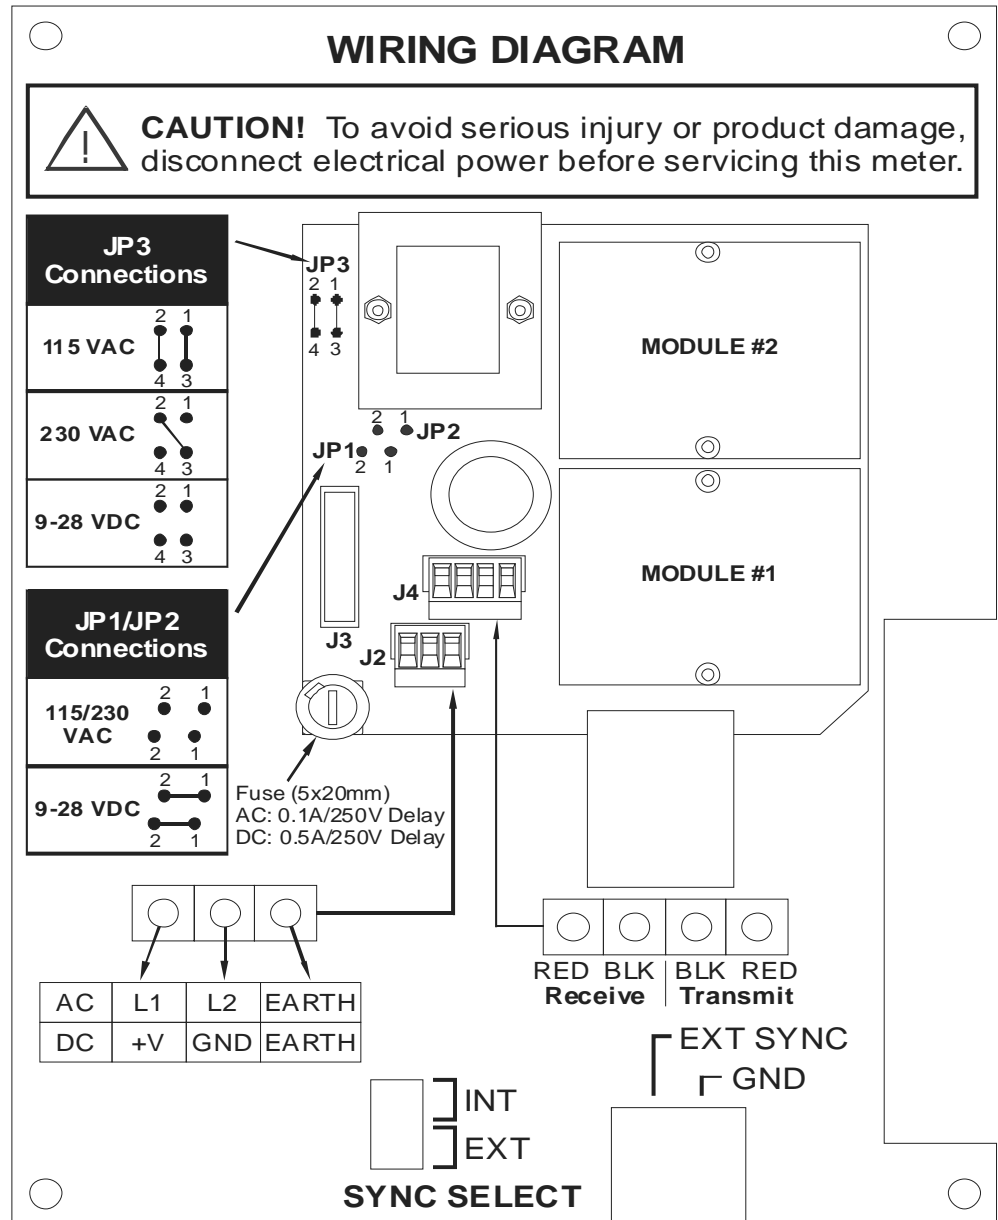

Figure 3.2
2. The terminals within the DFX are a pluggable type – they can be removed, wired and then plugged back in. Connect the appropriate wires to J4 at the corresponding screw terminals in the transmitter. See **Figure 3.2** on page 3.4 or the Wiring Diagram located on the inner door of the transmitter.
1. Verify that the jumpers at JP3 are properly oriented for the power supply. See **Figure 3.2** on page 3.4. Verify that the jumpers at JP1 and JP2 are not present.
2. Connect L1, L2 and EARTH to the terminals referenced in **Figure 3.2**. Phase and neutral connections to L1 and L2 are not polarized. Do not operate without an earth ground connection.
1. Verify that the jumpers are properly placed. See the Wiring Diagram located on the inside door of the DFX enclosure or see **Figure 3.2** on page 3.4. The jumpers at JP3 should not be present and the jumpers at JP1 and JP2 will be in place.